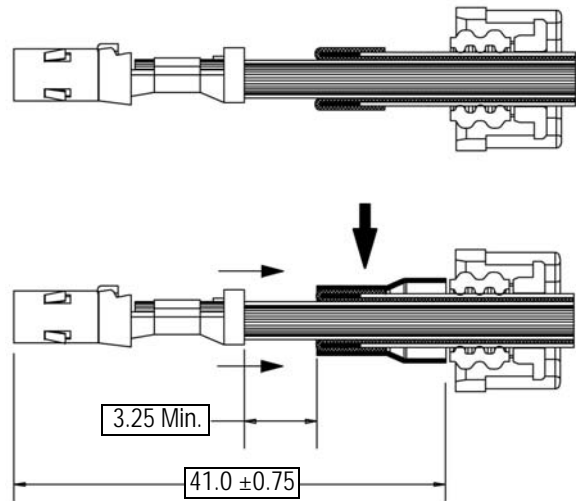

Figure 9
8. Install outer ferrule 1587584-[ ] past the socket terminal, over folded braided cable shield and inner ferrule, maintaining the dimensions as shown in Figure 9.